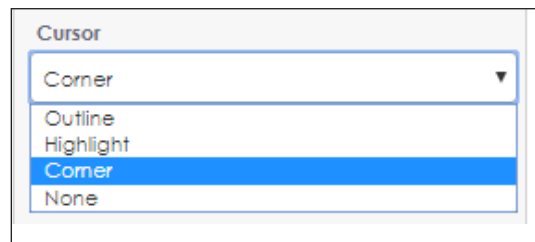

Figure 68: Cursor Options
- Choose how the edges will be shown on the display itself during the adjustment process with the **Cursor** drop-down list. Refer to **Figure 68**.